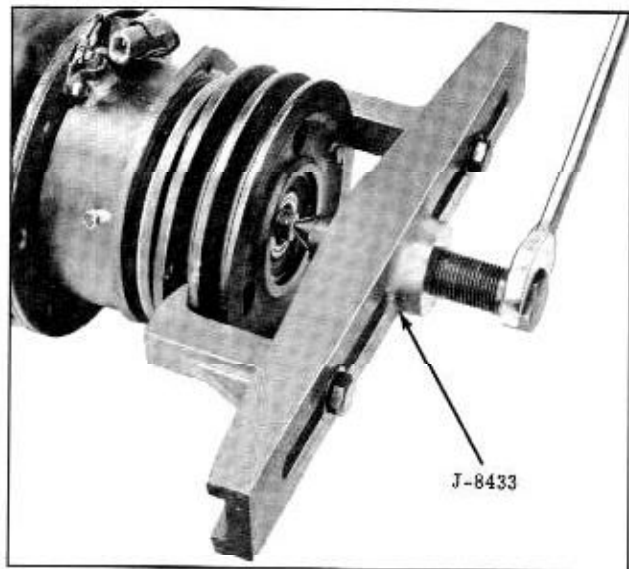

Fig. 14-22 Pulley Removal
2. Remove pulley belts, then using Tool J-8433, remove pulley. (Fig. 14-22)